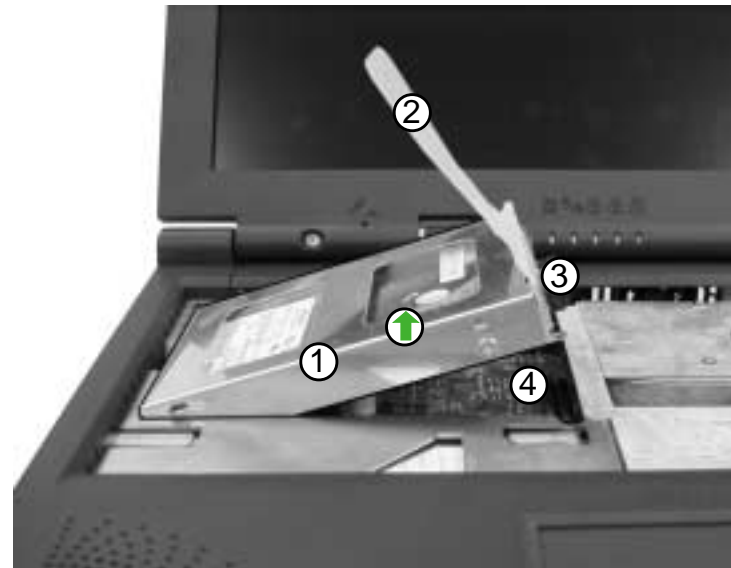

figure 3-6
2. Lift the HDD assembly out of the case using the HDD tab (figure 3-6).